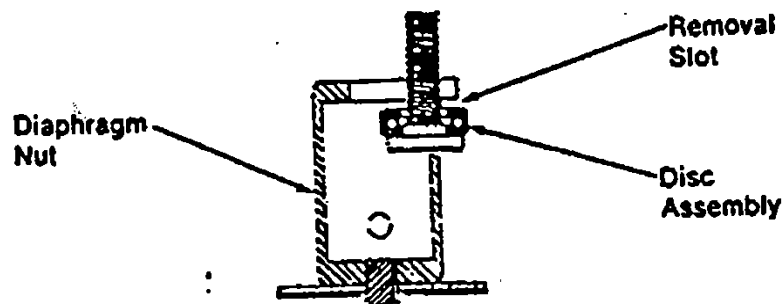

Figure 4 - Disengaging Handscrew Disc from Nut
4. Lift diaphragm case (14) while moving the case to one side so that handscrew disc assembly can be disengaged from diaphragm nut (8) by passing it through the slot in the diaphragm nut. (see Fig 4)
5. Remove handscrew (4) from bonnet (7).
1. Insert handscrew (4) into bonnet (7) and screw down through bonnet threads.
2. Insert diaphragm case (14) making sure that handscrew disc assembly is engaged to diaphragm nut (8). (see Fig 4)